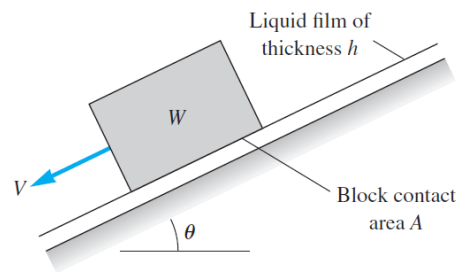

Fig. 1.2
- 1.2** A block of weight W slides down an inclined plane while lubricated by a thin film of oil, as in Fig. 1.2. The film contact area is A and its thickness is h . Assuming a linear velocity distribution in the film, derive an expression for the "terminal" (zero-acceleration) velocity V of the block. Find the terminal velocity of the block if the block mass is 6 kg, $A = 35$ cm², $\theta = 15^\circ$, and the film is 1-mm-thick SAE 30 oil at 20°C.